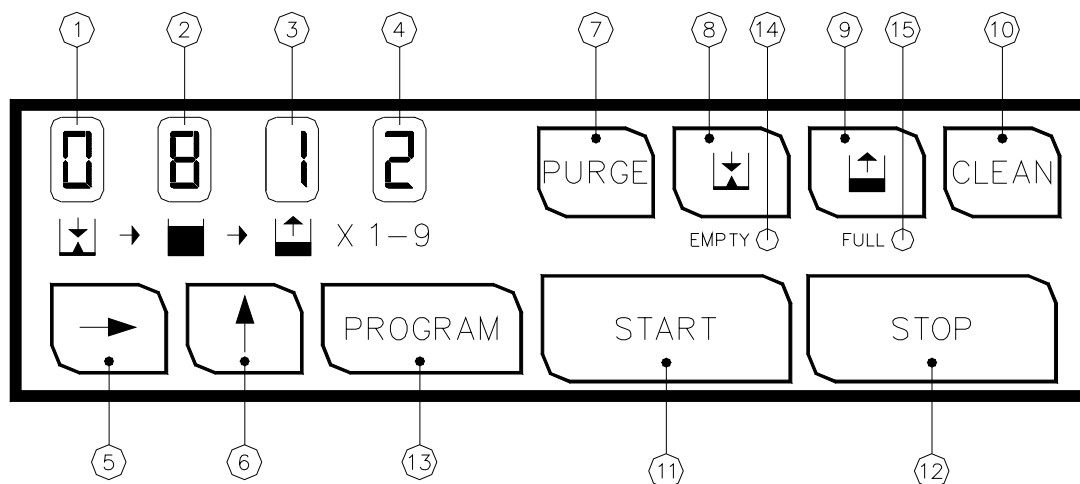

Figure 11: Display showing automatic wash cycle example
7. Press the **PURGE** control. Actuation of this control purges the system with washing solution. The plate carrier will automatically return to its home position. At this stage the machine will have dispensed the pre-set volume of liquid, according to window #1 (see Figure 11), in all wells of the microplate.
Display (see Figure 11)